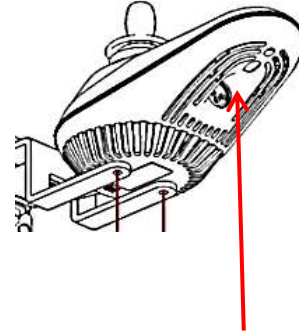

Fig. 2: Controller Serial Number Label
3.1.2 Controller Serial number label is located on the bottom of controller. Please see Fig. 2.